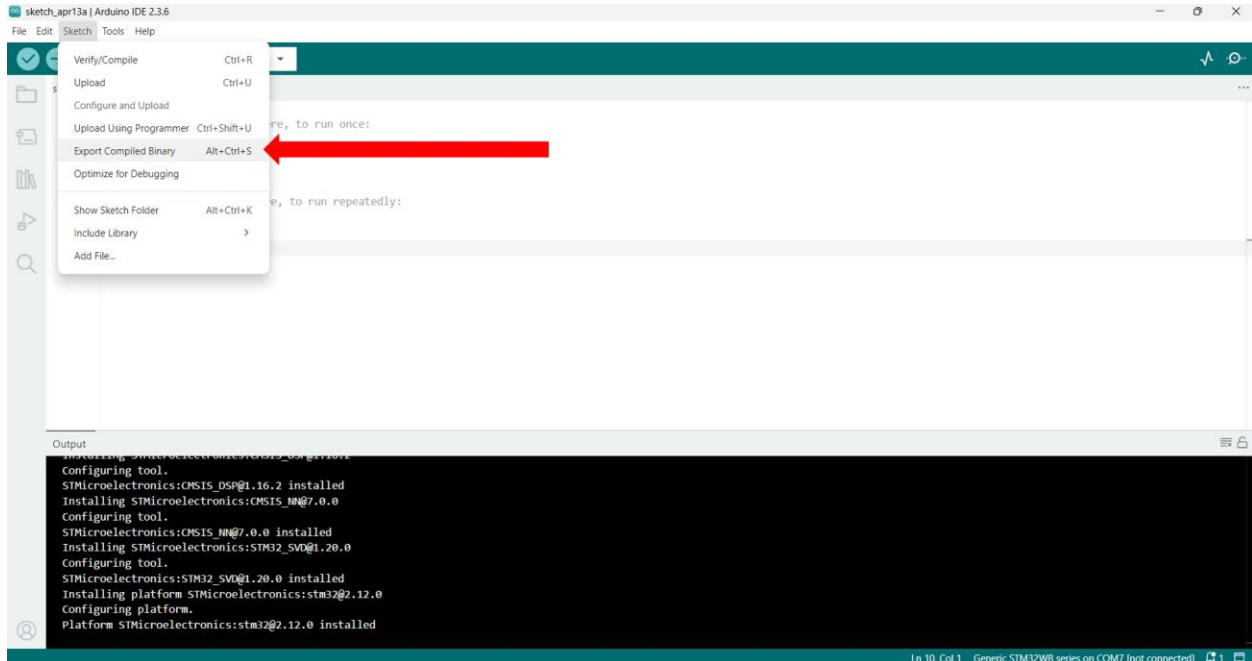

Figure 15
11. When your program is completed, compile the project by clicking Sketch -> Export Compiled Binary, as indicated in Figure 15. The binary file can be found in YOUR PROJECT MAIN FOLDER -> build -> STMicroelectronics.stm32.GenWB -> PROJECT_NAME.ino.bin.
3. Compile the project by following the instructions in Figure 15.